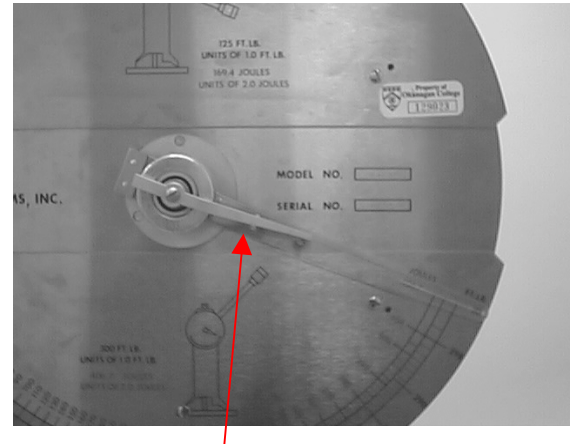

Figure 6. Dial indicator
- 5.3 Adjust the energy indicator to 300 ft-lbs (or 406.7 Joules), the hammer's maximum potential. (as in Figure 6)